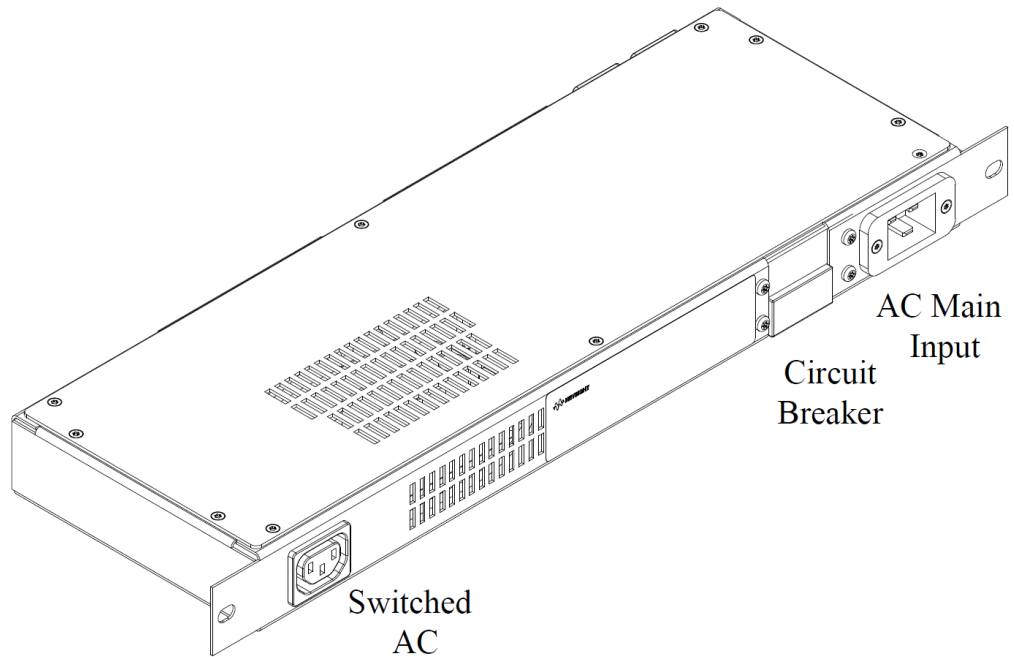

Figure 3-7 E3858B Mains Switch and Input
- In the case of E3858B, external power is plugged directly to the input connector on the right side of the E3858B (see Figure 3-7). The AC Mains switch serves as the master switch for the switched and unswitched AC outlets.